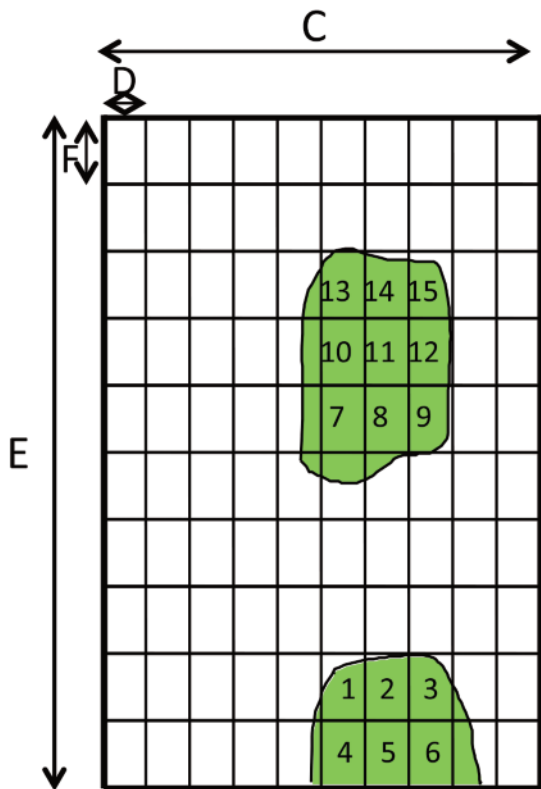

Figure 1. Use of a ground cover grid.
Place grid over a representative area of plants in field. Keep grid level with top of plants (i.e. do not squash plants so that leaf area distorts). The left-hand edge of the grid (A) should be aligned directly over the wheel furrow, with the right-hand edge (B) immediately over the central furrow of the bed (or centre row if using 3-row beds) (Figure1).